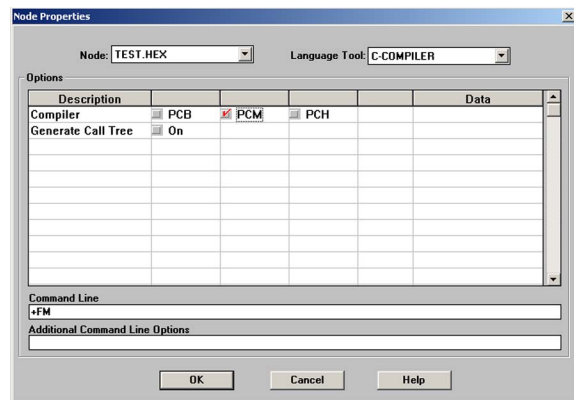

Figure 4: MPLab: Compiler Settings
5. Configure the CCS compiler. To do this click on the [project].hex file, then on *Node Properties*. In the popup dialog that appears, as seen in figure 4, click on the *PCM* compiler. If you wish, other compiler directives may be set here – see the CCS manual for details.